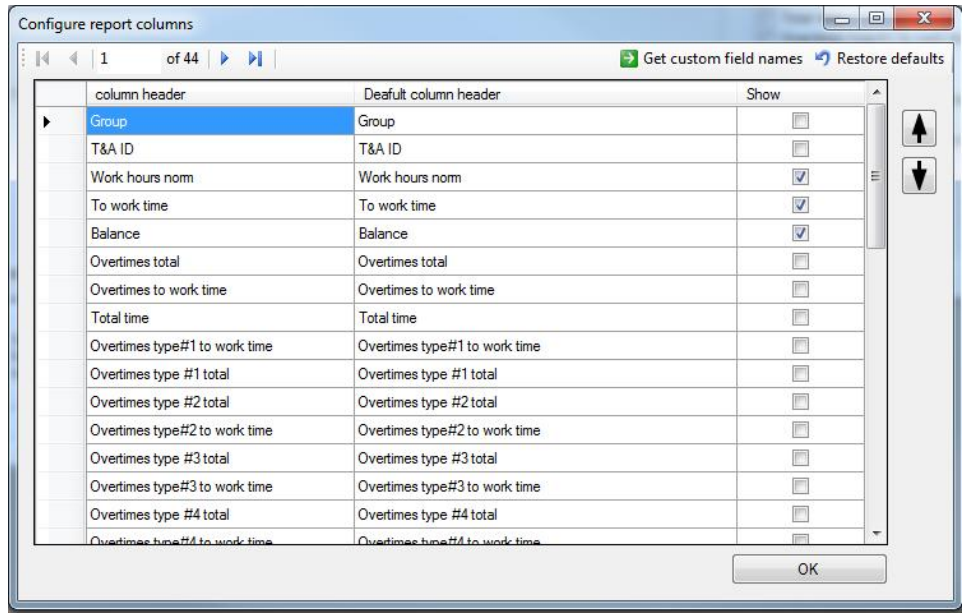

Figure 28. Configuring report columns
6. Click the **CONFIGURE REPORT COLUMNS** button. A dialog box appears as shown in Figure 28.